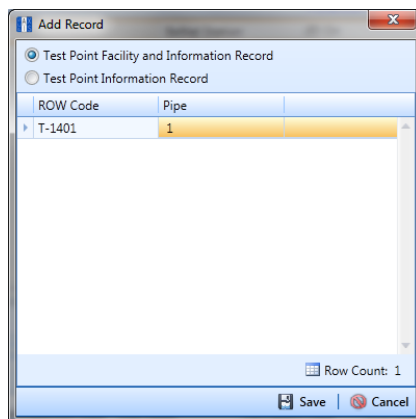

Figure 6-7. Add Record
- b Select the pipeline that you want to add a new facility and information record. For example, pipeline *T-1401* is selected in the next figure (Figure 6-7).